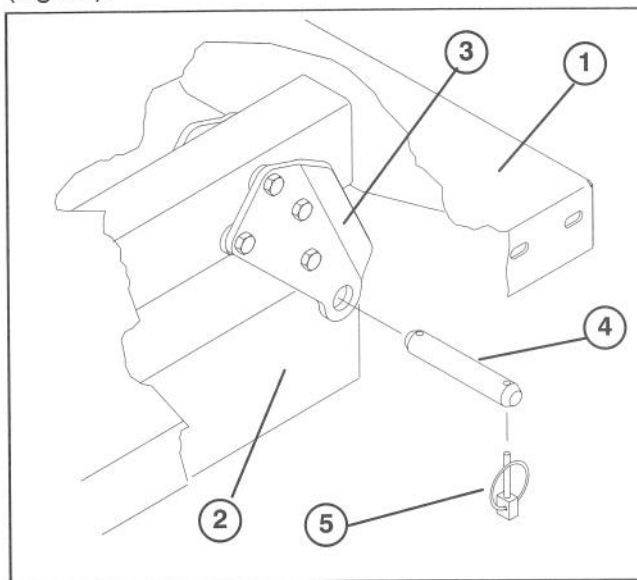

Figure 14
3. Remove clevis pins securing cylinder rod ends to bed mounting plates by pushing pins towards inside (Fig. 14).
4. Remove lynch pins and clevis pins securing pivot brackets to frame channels (Fig. 14).
NOTE: Assure rear pivot plates are bolted to the bed frame/channel so that lower end angles to the rear (Fig. 14).
2. Carefully set bed onto vehicle frame aligning rear bed pivot plate holes with holes in rear frame channel and install (2) clevis pins and lynch pins (Fig. 14).